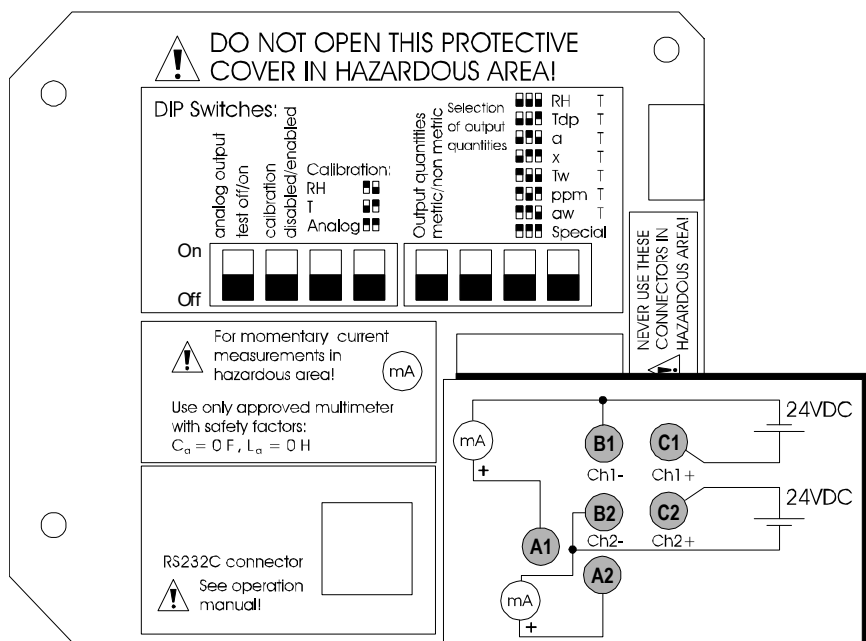

Figure 25 Connecting Power Supply and Multimeter for Calibration
1. Connect a power supply (12 ... 24 VDC, with a serial port the minimum supply voltage is 15 VDC) to the terminals B1 (-) and C1 (+) (Ch 1) with banana plugs, see Figure 25 on page 65.